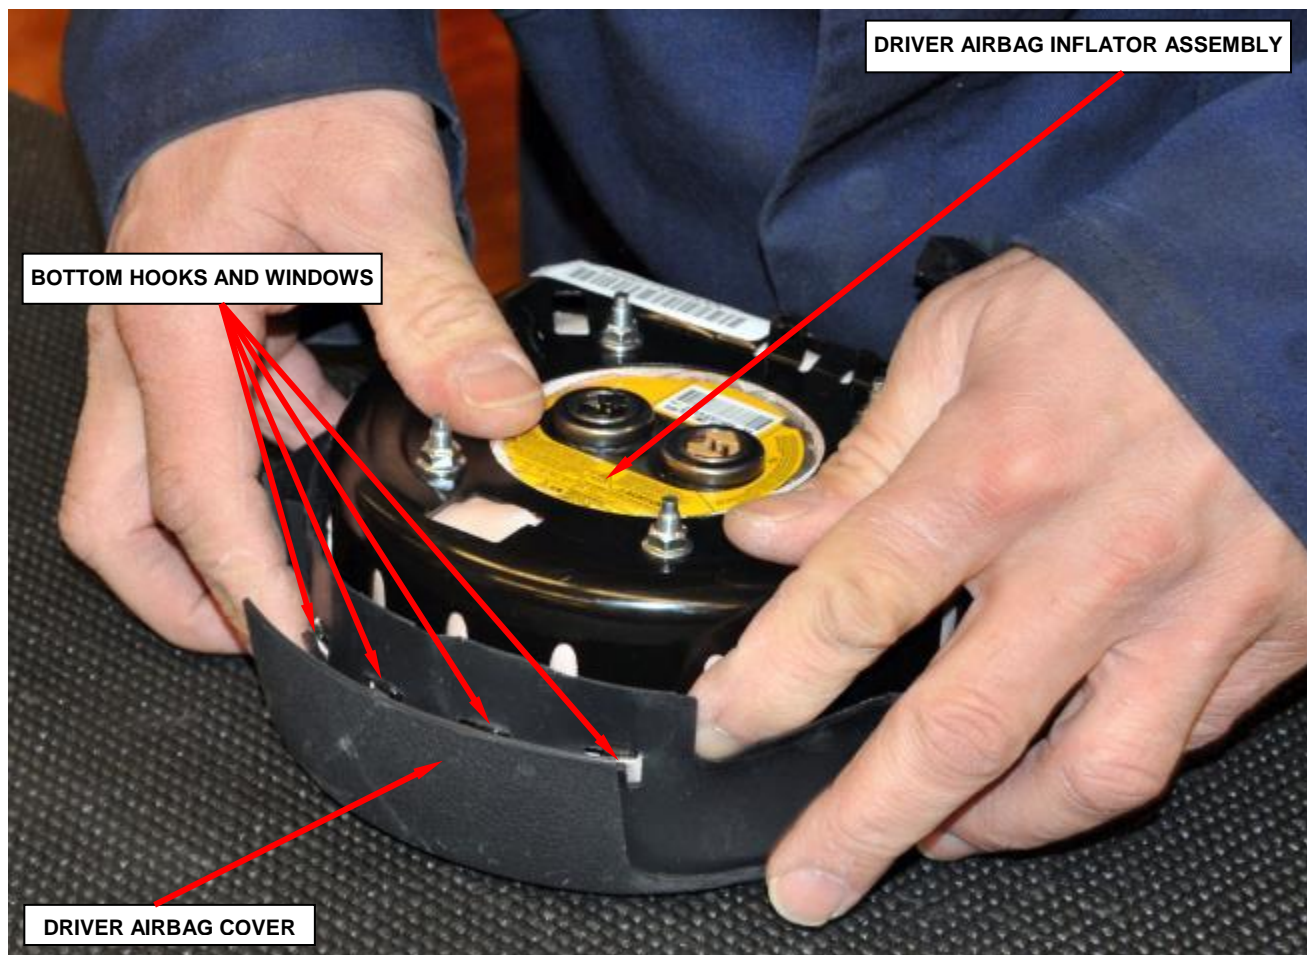

Figure 8 - Verify Hook and Window Engagement
19. Pull on the driver airbag inflator assembly to fully engage the hooks and windows on all sides of the driver airbag cover (Figure 8).